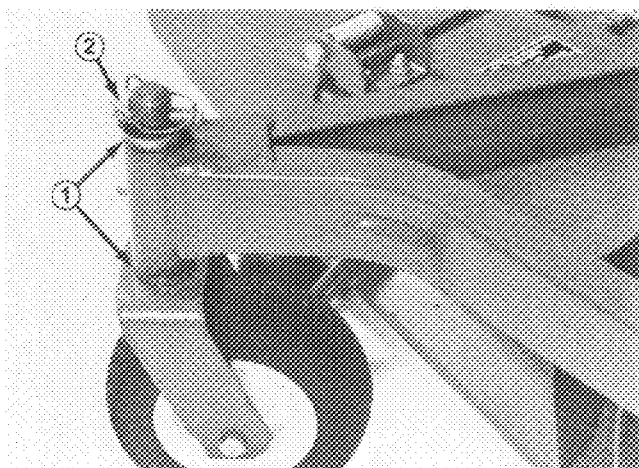

Figure 32
side of the cutting unit raised. Remove the lynch pin securing castor wheel on low end (Fig. 32) and remove castor assembly.
- C. If cutting unit is operated at 2 to 4 in. (51 to 102 mm) height-of-cut, lower the high side of cutting unit. Remove lynch pin of castor at high end of unit and remove castor assembly (Fig. 32).